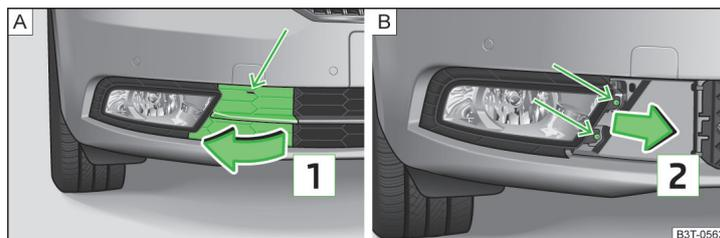

Fig. 206 Front bumper: Remove the protective grille/fog light
- Undo the protective grille in the area of the arrow » Fig. 206 - **A** using the clamp for removing the wheel trims » page 205, *Vehicle tool kit*.
- Use the screwdriver from the tool kit to unscrew the fog lamp » Fig. 206 - **B**.
- Replace the fog lamp by inserting it in the opposite direction of the arrow **2** » Fig. 206 - **B** and screw tight.